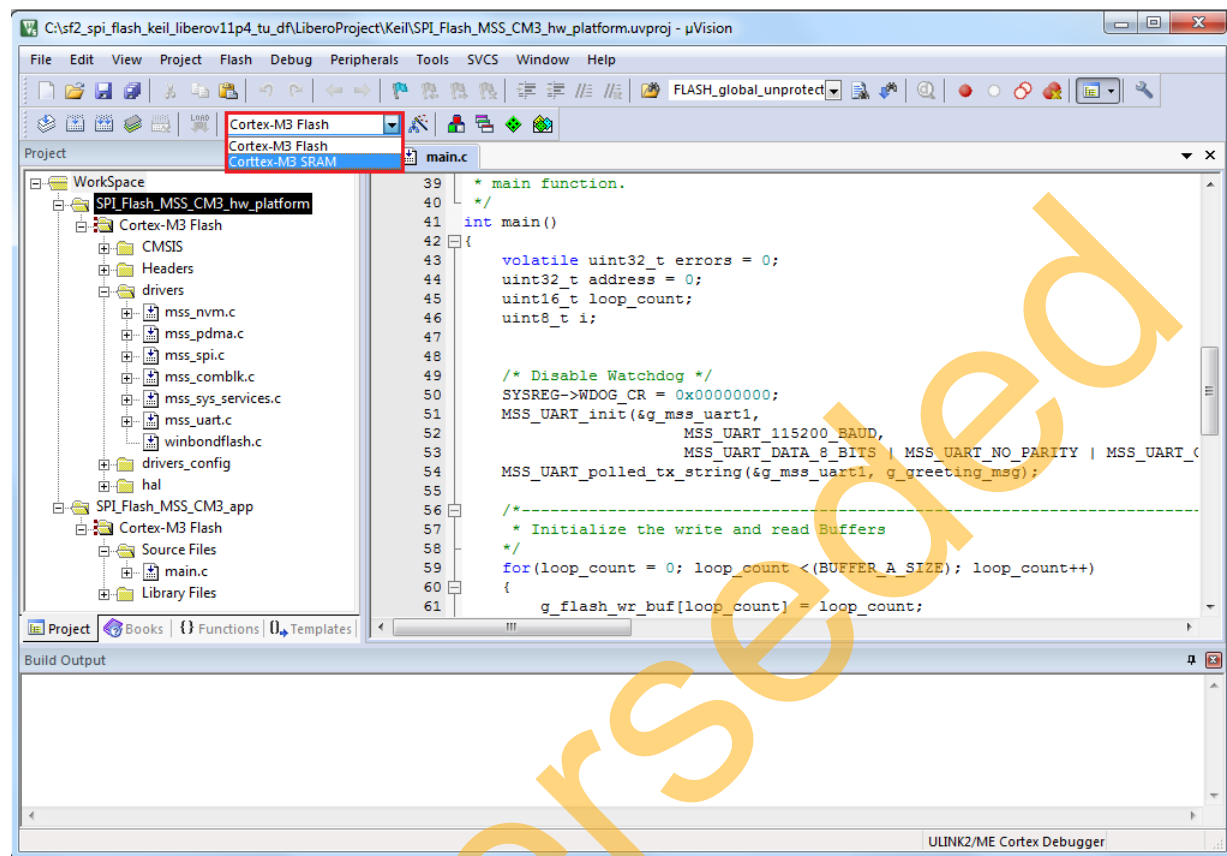

Figure 23 • Cortex-M3_SRAM Settings
- Change **SPI_Flash_MSS_Cm3_hw_platform** debug mode to **Cortex-M3_SRAM** by selecting **Cortex-M3_SRAM** from the drop-down list, as shown in Figure 23.